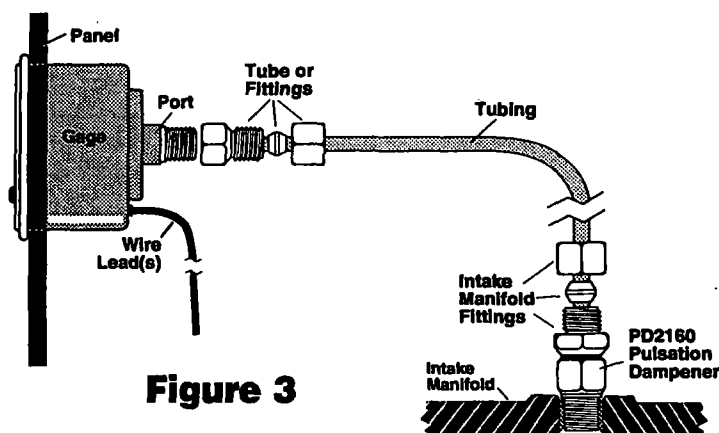

Figure 3
2. Connect suitable tubing to the 1/8-27 NPT port of the gage and to an open port in the intake manifold. Mounting kit V5179 is suggested and includes tubing and necessary fittings. The manifold fitting is 1/4 NPT. Figure 3 shows a typical mounting using V5179 kit. A Murphy PD2160 is also recommended.